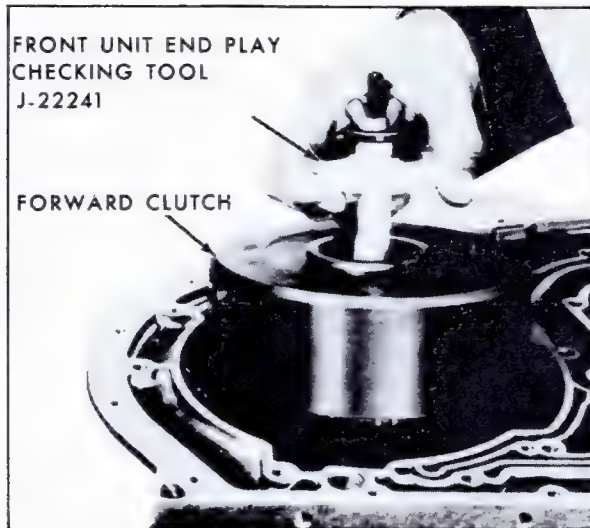

Fig. 7-172 Removing Forward Clutch
1. Remove forward clutch assembly from transmission, Fig. 7-172, by installing Front End Play Checking Tool, J-22241, into forward clutch and lifting forward clutch straight out.